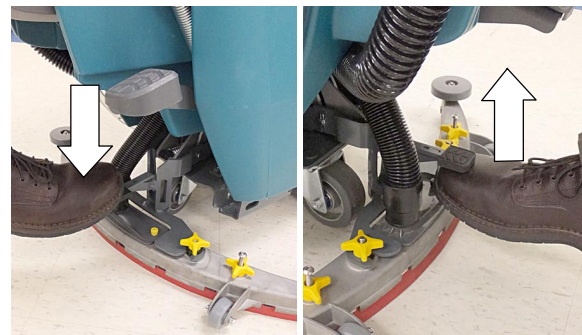

FIG. 35
5. Lower the squeegee assembly to floor by stepping on foot pad as shown (Figure 35). To raise squeegee assembly, place toe under foot pad and lift. The vacuum motor will start when squeegee assembly is lowered.